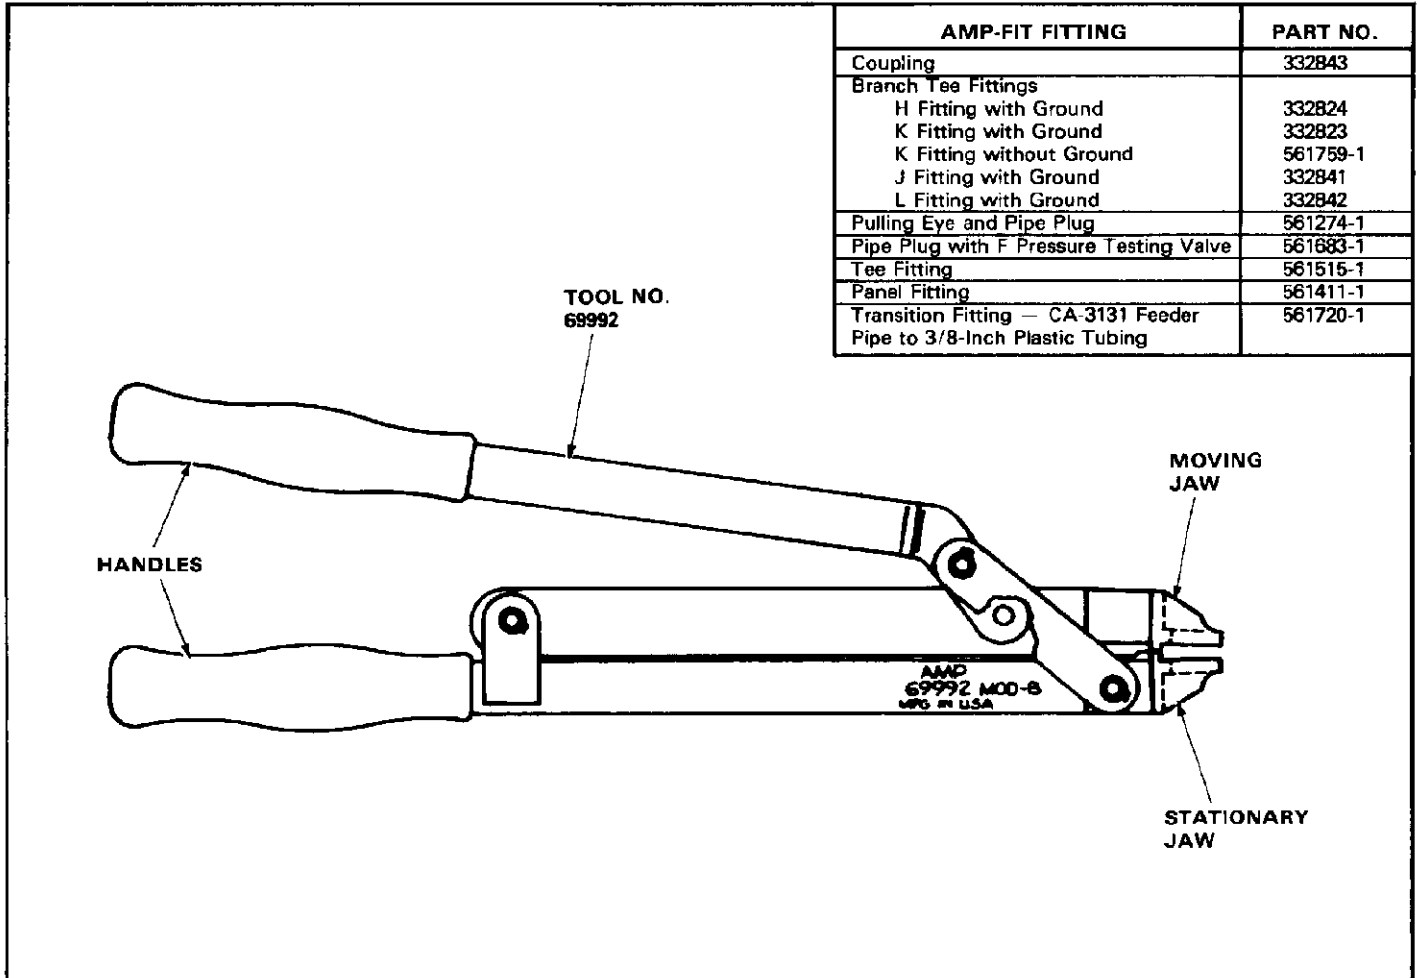

Fig. I-1
I-1. INTRODUCTION (Figure I-1)
This instruction sheet (IS) covers the use of AMP Hand Crimping Tool 69992 which is used to apply AMP-FIT★ fittings listed in Figure I-1 to CA-3131 dry air feeder pipe in pressurized dry air pipe systems.